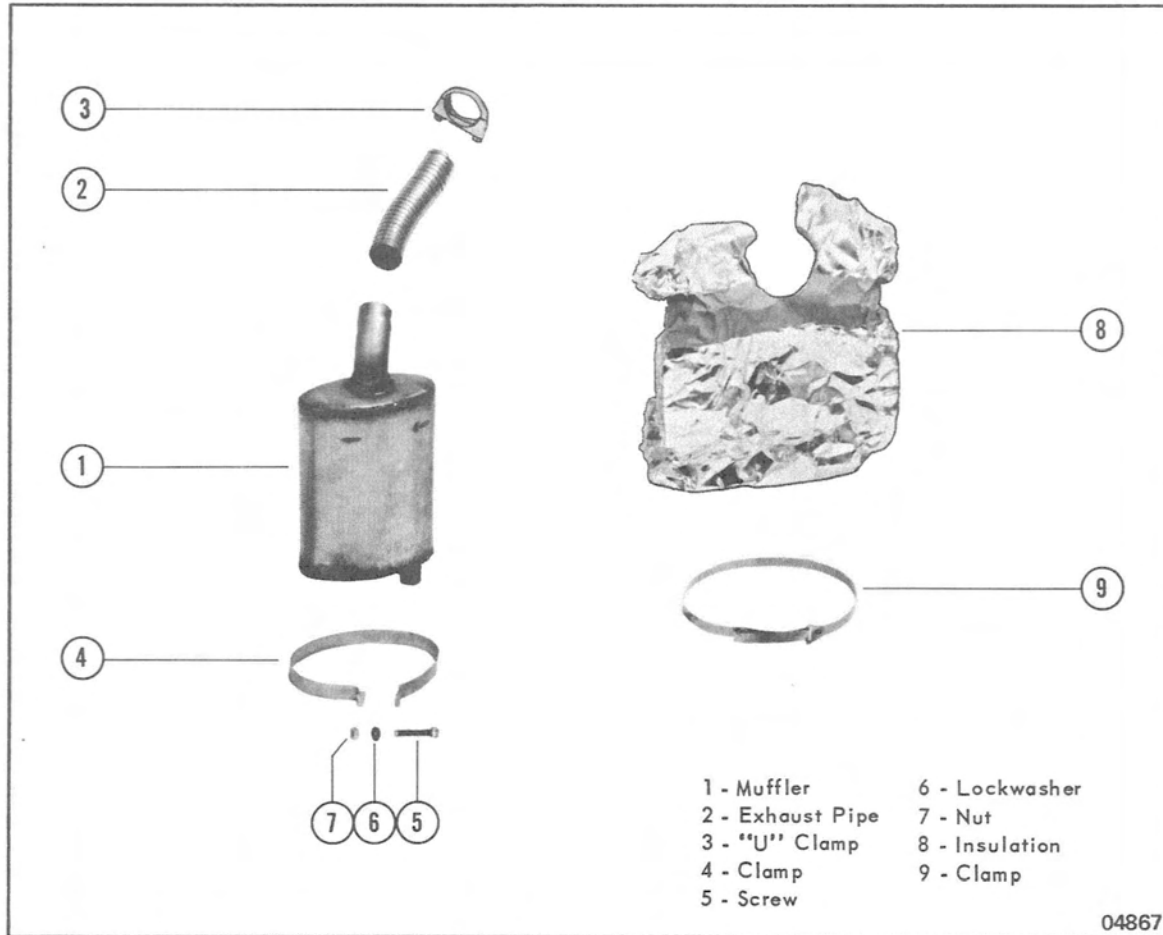

Figure 1. Exhaust System Components - Rocket and Lightning Models
3. Remove screws, lockwashers and nuts from muffler clamps. (Figure 1, Items 4-5-6-7)
4. Loosen 2 exhaust pipe clamps. Remove muffler and exhaust pipe. (Figure 1, Items 1-2-3)